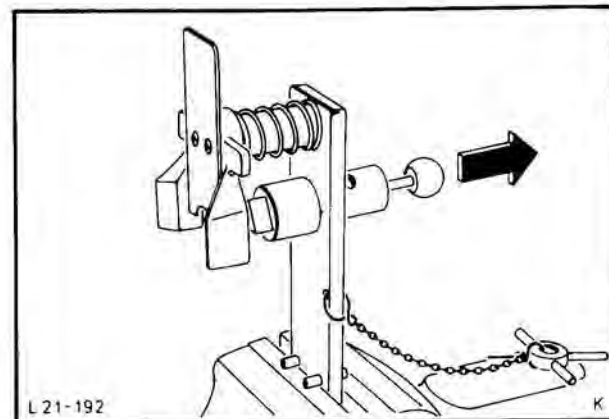

Fig. 221. Piston pin installer 21-014
3. Clamp Special Tool 21-014 in vice. Completely withdraw guide pin, Fig. 221.